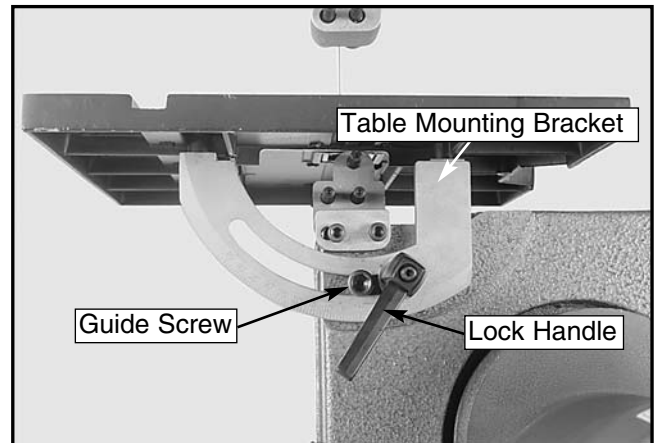

Figure 2. Table mounted to the bandsaw.
3. Screw the lock handle (#53) and the guide screw (#51) into the threaded holes on the back of the saw. **Figure 2.**